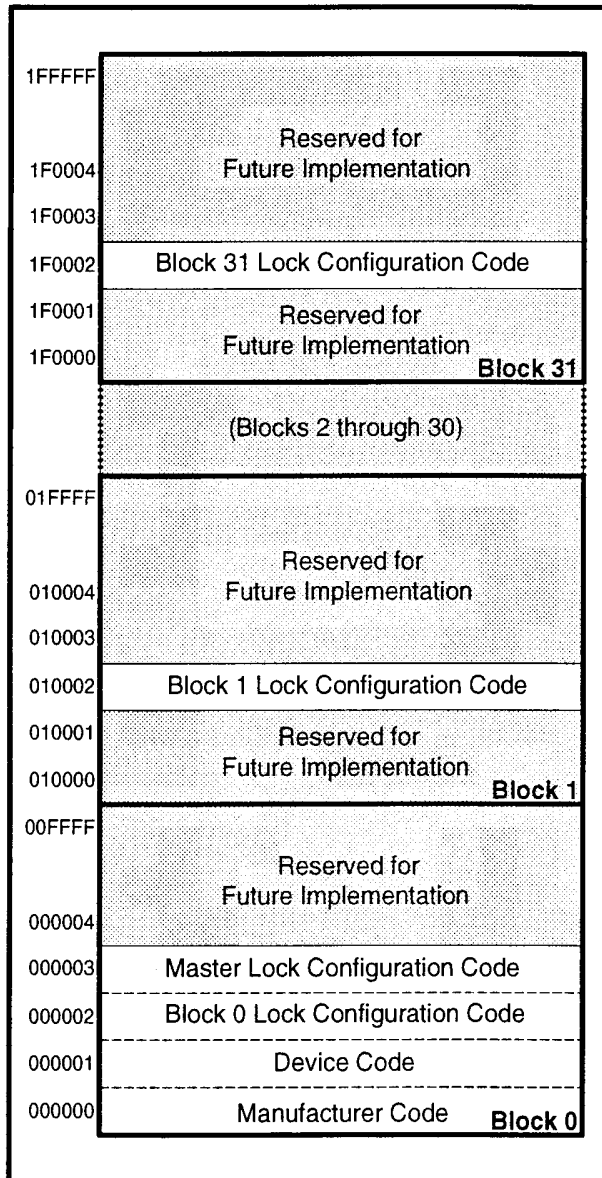

Figure 4. Device Identifier Code Memory Map
The read identifier codes operation outputs the manufacturer code, device code, block lock configuration codes for each block, and the master lock configuration code (see Figure 4). Using the manufacturer and device codes, the system CPU can automatically match the device with its proper algorithms. The block lock and master lock configuration codes identify locked and unlocked blocks and master lock-bit setting.
| Read Identifier Codes | 8       | V IH or V HH | V IL | V IL | V IH | See Figure 4 | X               | Note 5            | V OH |
IA=Identifier Code Address: see Figure 4.
The identifier code operation is initiated by writing the Read Identifier Codes command. Following the command write, read cycles from addresses shown in Figure 4 retrieve the manufacturer, device, block lock configuration and master lock configuration codes (see Table 5 for identifier code values). To terminate the operation, write another valid command. Like the Read Array command, the Read Identifier Codes command functions independently of the  $V_{PP}$  voltage and  $RP\#$  can be  $V_{IH}$  or  $V_{HH}$ . Following the Read Identifier Codes command, the following information can be read:
1. X selects the specific block lock configuration code to be read. See Figure 4 for the device identifier code memory map.